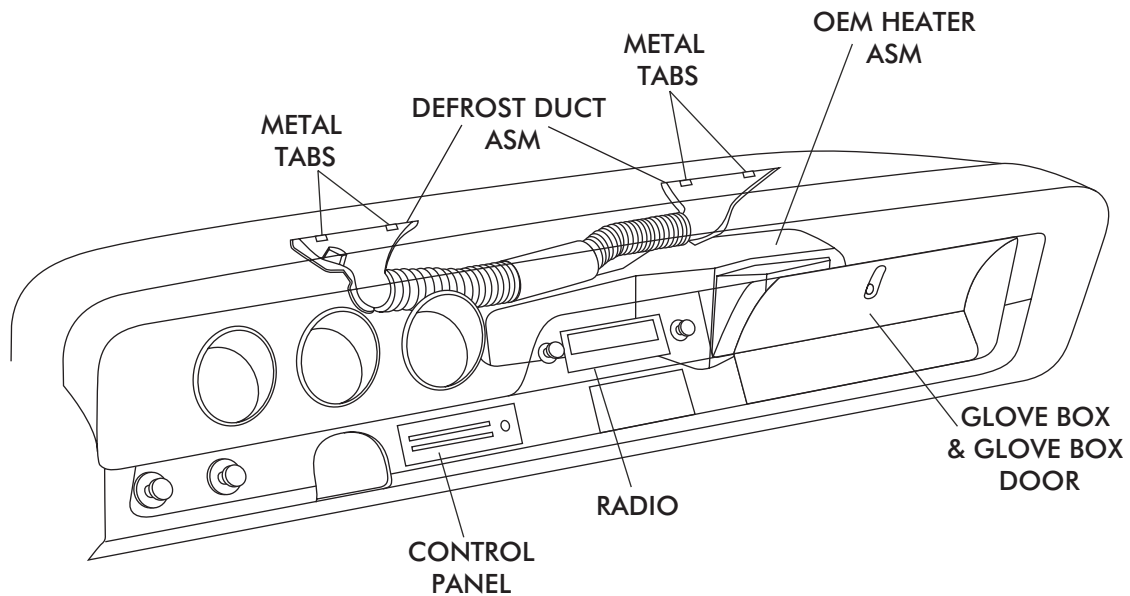

FIGURE 2
- REMOVE GLOVE BOX DOOR (RETAIN) AND GLOVE BOX (DISCARD) (SEE FIGURE 2 BELOW).
- OEM DEFROST DUCT ASSEMBLY BY STRAIGHTENING 4 METAL TABS. SEE FIGURE 2 BELOW.
- OEM HEATER ASM (DISCARD). SEE FIGURE 2 BELOW.